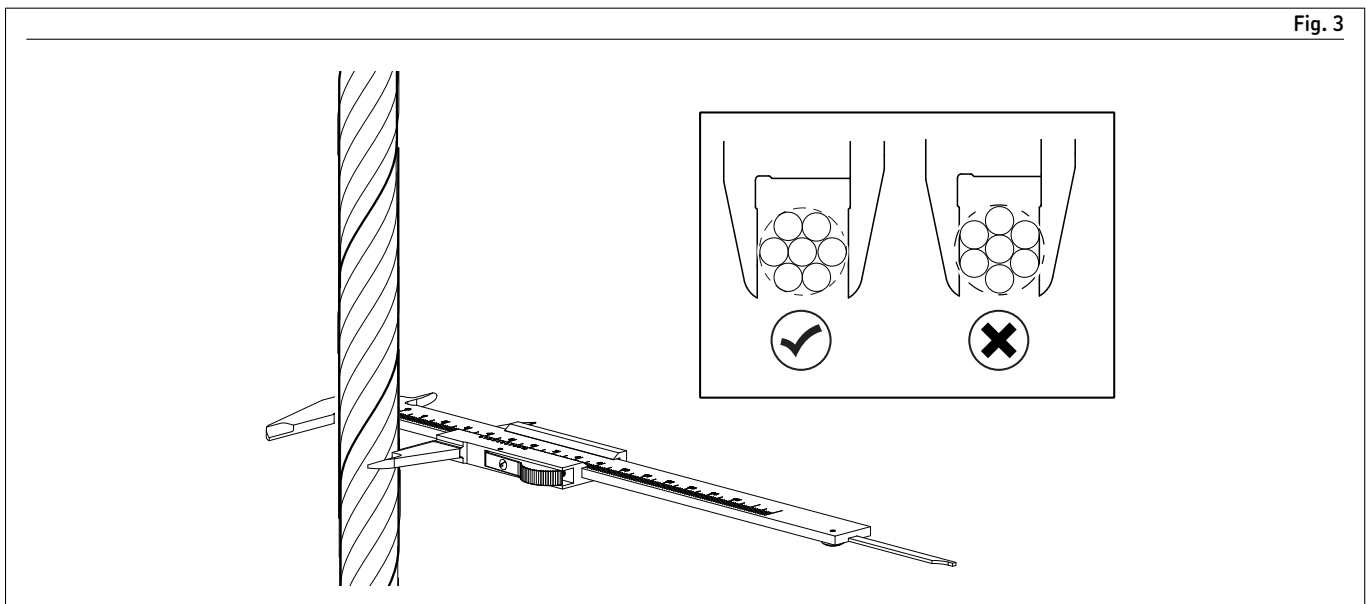

Fig. 3
Diameter of wire rope is determined by imaginary circle that would enclose all wire rope strands (→ Fig. 3).
- 1 Measure diameter of wire rope (→ Fig. 3).